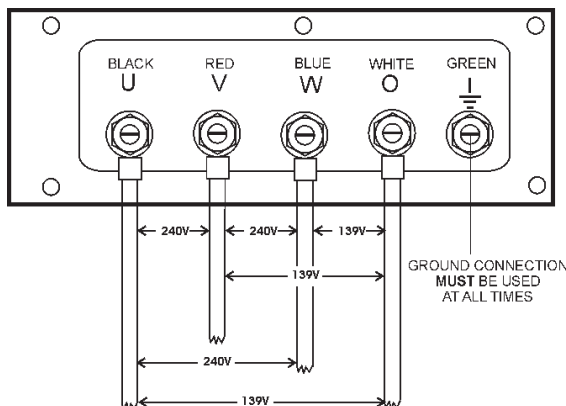

Figure 22. Output Terminal Lugs 3Ø-240/139V Connections
2. Connect the load wires to the **Output Terminal Lugs** as shown in Figure 22.